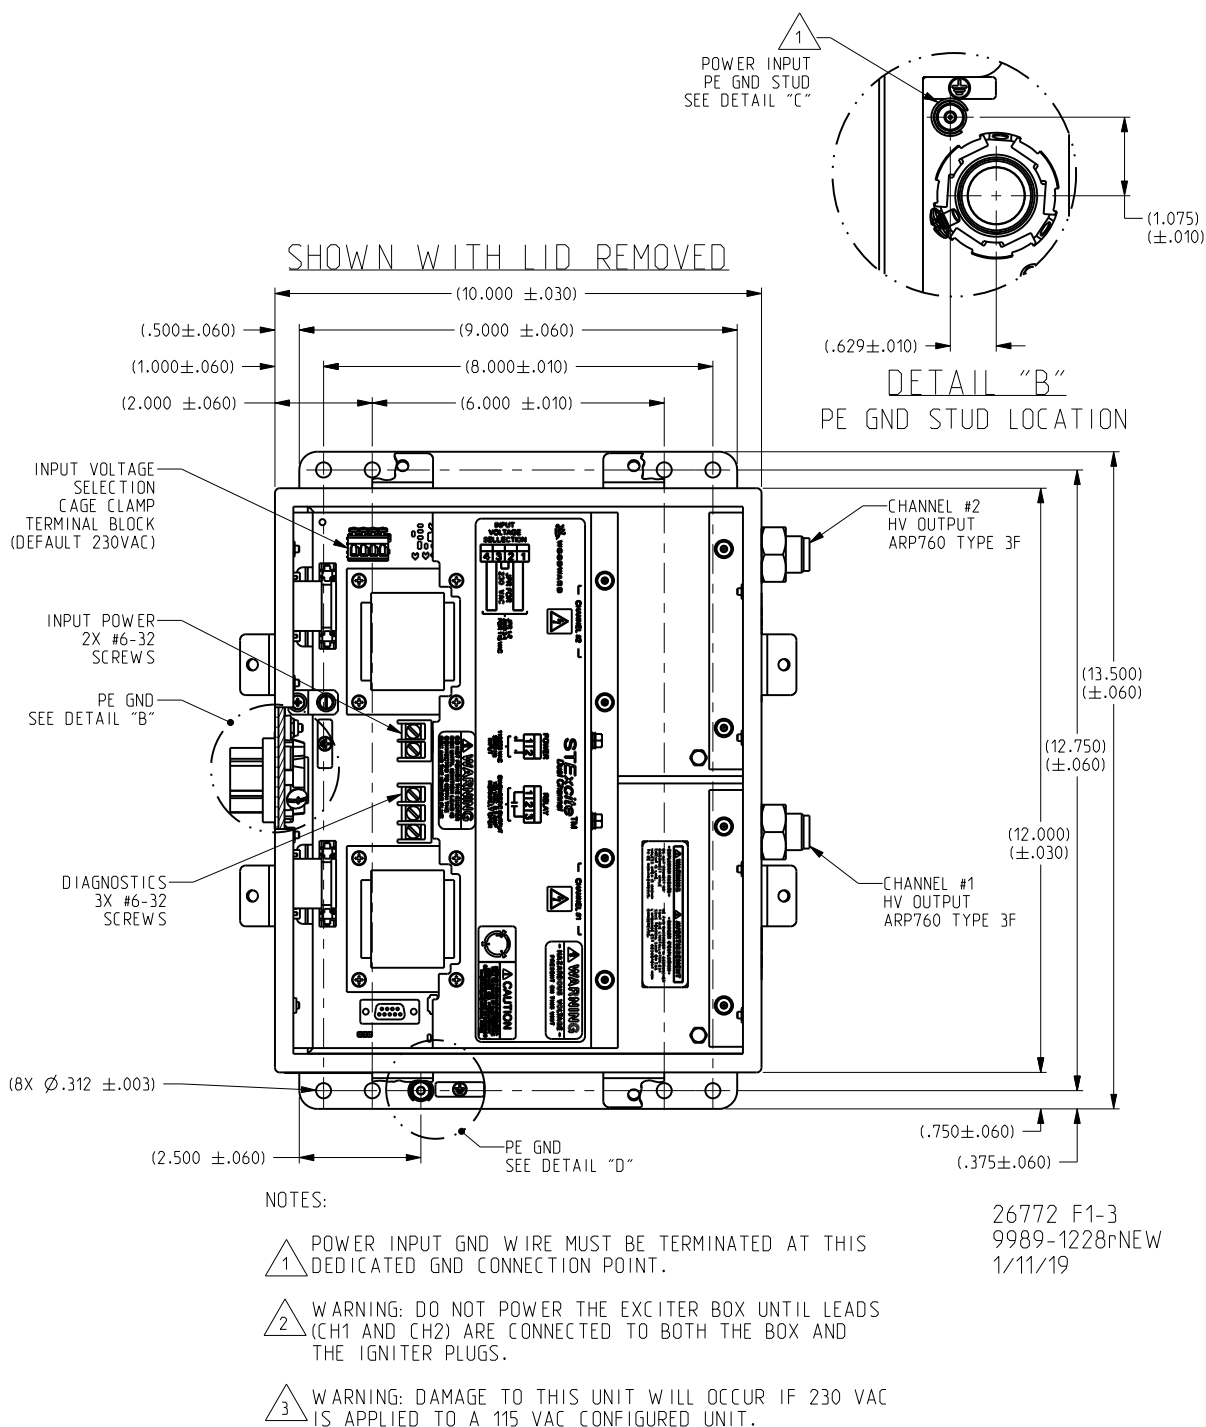

Figure 1-3. Outline Details
2. Attach the ignition lead ends to the high energy ignition output ARP760 (see Figure 1-3 for details). Use a tool to fully seat the nut on the lead to the output connector, so it cannot be loosened by hand.
5. Make sure that a safety ground connection is made through the power connector or through the terminal provided on the enclosure (Figure 1-3). Bonding connections are provided on the enclosure, and it is intended that the installer do the bonding in accordance with paragraph 501.16a of the NEC (USA).
7. Connect the diagnostic output leads for the turbine combustion controller to the relay output terminals (Figures 1-3 and 1-4) using 1 mm² (18 AWG) wire with ring terminals suitable for #6 screws. Torque terminal screws to 9-12 lb-in.
8. Connect the input power leads from the turbine combustion controller to the power input terminals (Figures 1-3 and 1-4) using 1.5 mm² – 2.1 mm² (16 AWG – 14 AWG) wire with ring terminals suitable for #6 screws. Torque terminal screws to 9-12 lb-in.
9. Connect earth ground to the PE Ground lug as shown in Figure 1-3. Use a 30 cm long by 13 mm wide (12 inch long, 1/2 inch wide) or shorter flat hollow braid or comparable surface area wire. Use gauge as large as power wires or larger.